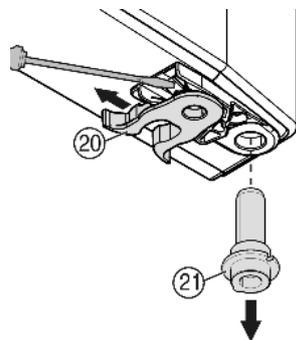

Fig. 10
- ▶ Transfer the spring clamp *Fig. 10 (20)*: Depress the latch nose and pull the spring clamp off over it.
- ▶ Pull the bearing pin *Fig. 10 (21)* out of the door bush and transfer it to the opposite side together with the washer. The latch nose must point to the inner side of the door, the notch to the outer side.
- ▶ Swing the door in at the bottom and insert the bearing pin *Fig. 10 (21)* into the turn hinge. If necessary, turn the bearing pin until it snaps into place.